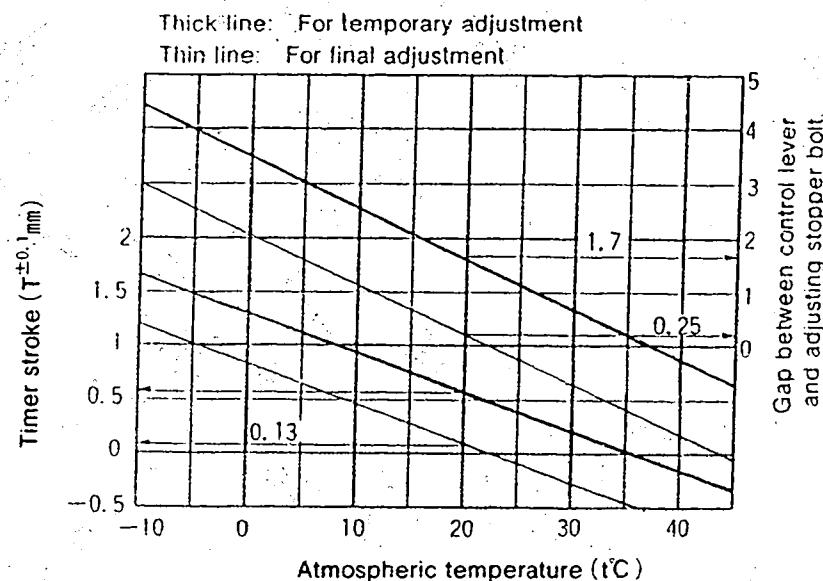

Fig. 2
1. Calculate the timer stroke from Fig. 2 according to the atmospheric temperature at the time of adjustment:
Formula for calculating Fig. 2
1. Calculate the block gauge dimension $\ell \pm 0.05\text{mm}$ from Fig. 2 according to the atmospheric temperature at the time of adjustment.
2. Insert the block gauge (thickness gauge) selected in Step(1) above between the bracket and the idling stopper bolt.